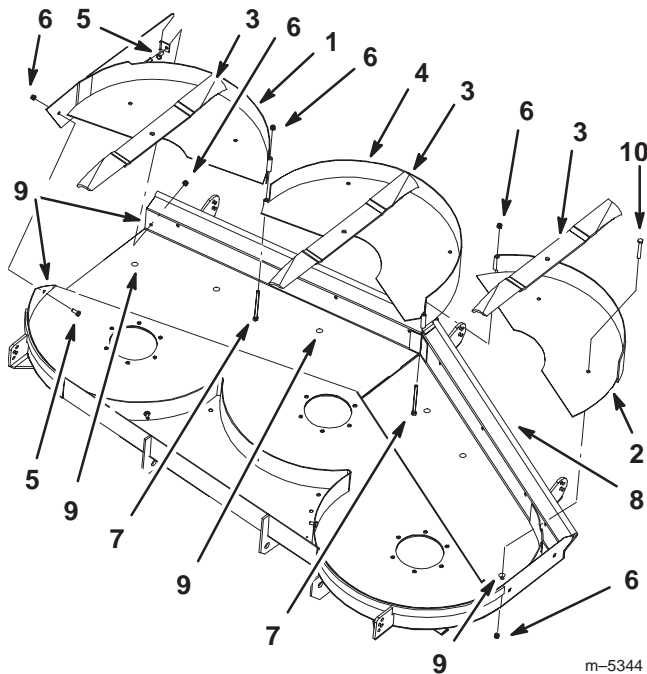

Figure 2
1. To determine where you need to drill holes, place center baffle into deck and against the front part of the deck (Fig. 2).
2. Install only the center mulching blade (Fig. 2).
**IMPORTANT:** The sail part of the blade (i.e., the turned up section) must face the inside of the mower (Fig. 2).
5. Mark the location for center baffle mounting holes and then remove baffle (Fig. 2).
1. Assemble center baffle to the left and right baffles using 2 bolts (5/16 x 4-1/2 in.) and 2 lock nuts (Fig. 2).
4. Install center baffle to deck with 2 bolts (5/16 x 2-3/4 in.) and 2 lock nuts (5/16 in.) (Fig. 2).
1. Place the left and right baffles, while connected to center baffle, against the front part of the deck (Fig. 2).
2. Install left and right mulching blades after the baffles are in place (Fig. 2).
**IMPORTANT: The sail part of the blades (i.e., the turned up section) must face the inside of the mower (Fig. 2).**
5. Mark the location of the left and right baffle mounting holes (Fig. 2).
**Note:** Make sure to mark and drill the right baffle mounting holes that are on the front and side of the deck (Fig. 2).
7. Install left baffle to deck with 2 bolts (5/16 x 2-3/4 in.) and 2 lock nuts (5/16 in.) (Fig. 2).
8. Install right baffle to deck with bolts (5/16 x 2-3/4 in.) and 2 lock nuts (5/16 in.) (Fig. 2).
9. Install right baffle to front and side of the deck with 2 bolts (5/16 x 3/4 in.) and 2 lock nuts (5/16 in.) (Fig. 2).